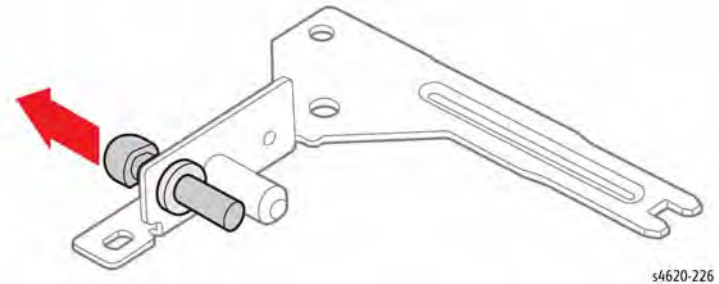

Figure 2 Remove the exit gate actuator
5. Remove the actuator and bearing from the mounting bracket, Figure 2.